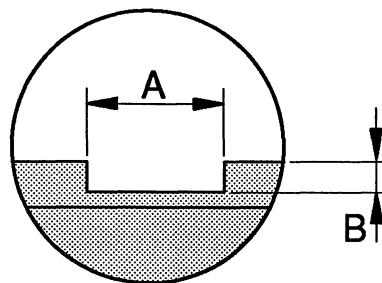

Fig. 1
- a) Cut a mark in the IS strip and the web, see fig. 1.
- c) If not, set the twisted strip guard (1), see page MM 831–5X.